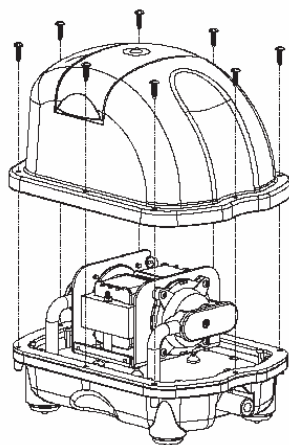

FIG. 2
1. Loosen the eight screws around the plastic upper cover and take the cover off. (As shown in figure 2)